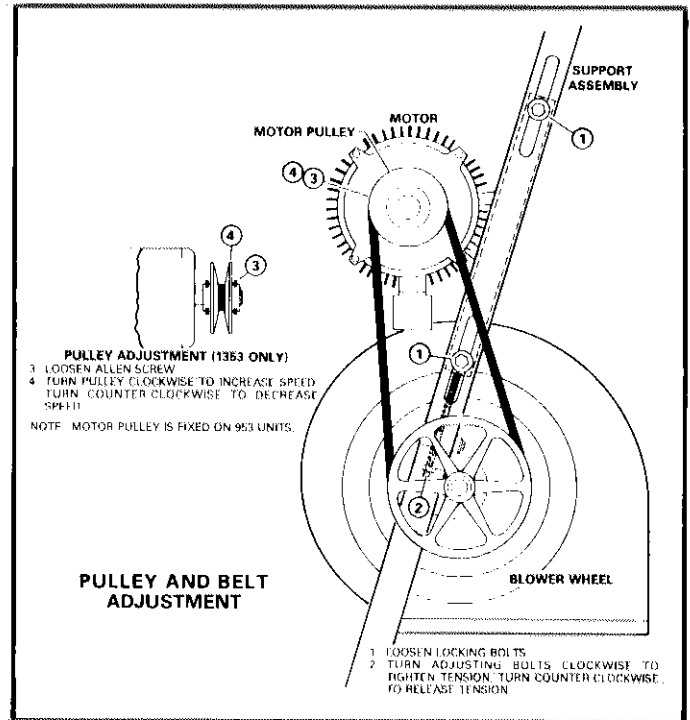

FIGURE 12
- The CFM can be adjusted at the motor pulley on CHA11-1353 units. Loosen the allen screw. Turn adjustable sheave clockwise to increase CFM or counter-clockwise to decrease CFM. See Figure 12.
Maximum life and wear can be obtained from belts only if proper pulley alignment and belt tension are maintained. Initially, tension new belt(s) after a run in period of 24-48 hours. This allows belt(s) to stretch and seat in the grooves. To adjust belt tension, loosen 4 locking bolts. Turn adjusting bolt to slide motor up or down. See Figure 12.